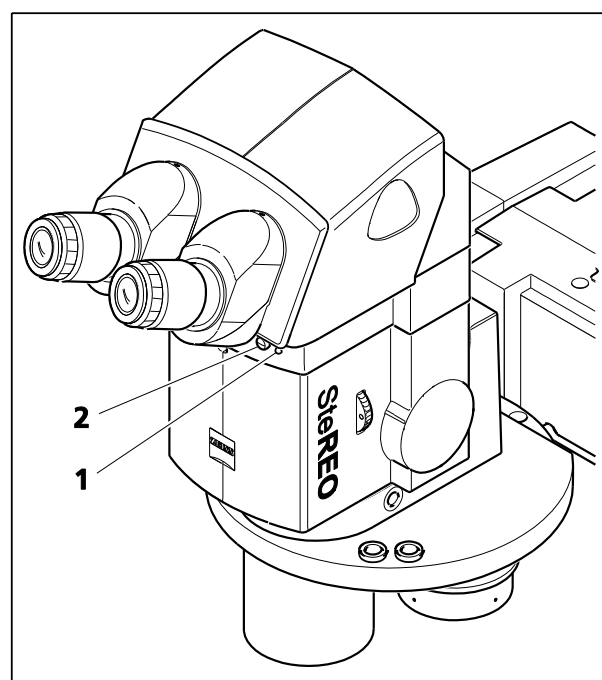

Fig. 42 Intermediate tube S mot. with analyzer
- Press the button (Fig. 42/2) briefly to swing the polarization filter into/out of the light path. If the filter is active, the blue LED (Fig. 42/1) at the front of the intermediate tube with analyzer is lighting.